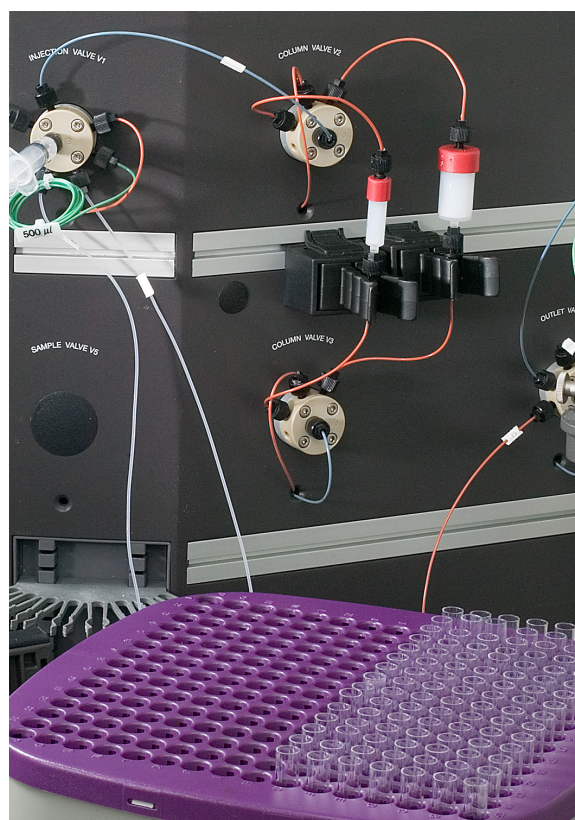

Fig 2. Plasmid DNA quantity and quality can be quickly assessed using PlasmidSelect Xtra Screening Kit and ÄKTAexplorer 10.
2. PlasmidSelect Xtra Screening Kit – HiTrap™ Sepharose HP 5 ml and HiTrap PlasmidSelect Xtra 1 ml columns for quick and convenient determination of plasmid DNA quantity and quality during fermentation or purification process development (Figs 2 and 3).